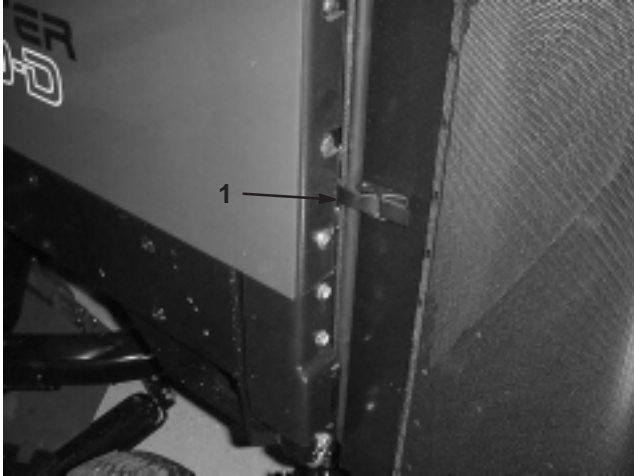

Figure 36
- Unlatch and swing open rear screen (Fig. 36). Clean the screen thoroughly of all debris.